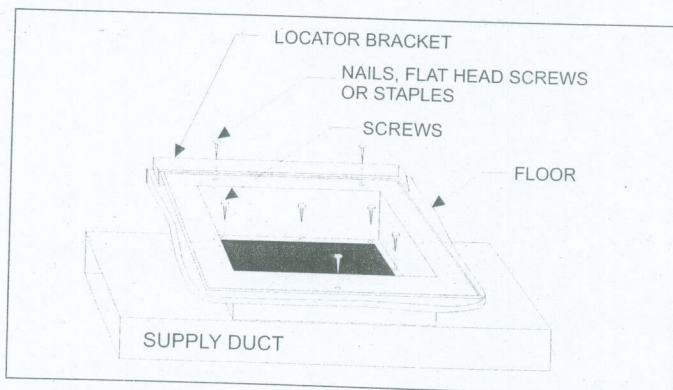

FIGURE 9: Duct Connector Screw Attachment
3. Place locating bracket (supplied with the duct connector) to the back edge of the floor opening. See Figure 9.